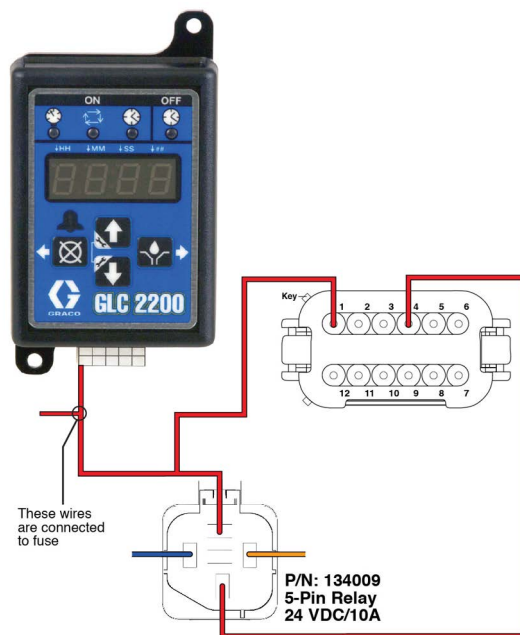

FIG. 28
7. Install the loose red wire into the GLC 2200 Controller harness for the low level power (FIG. 28).